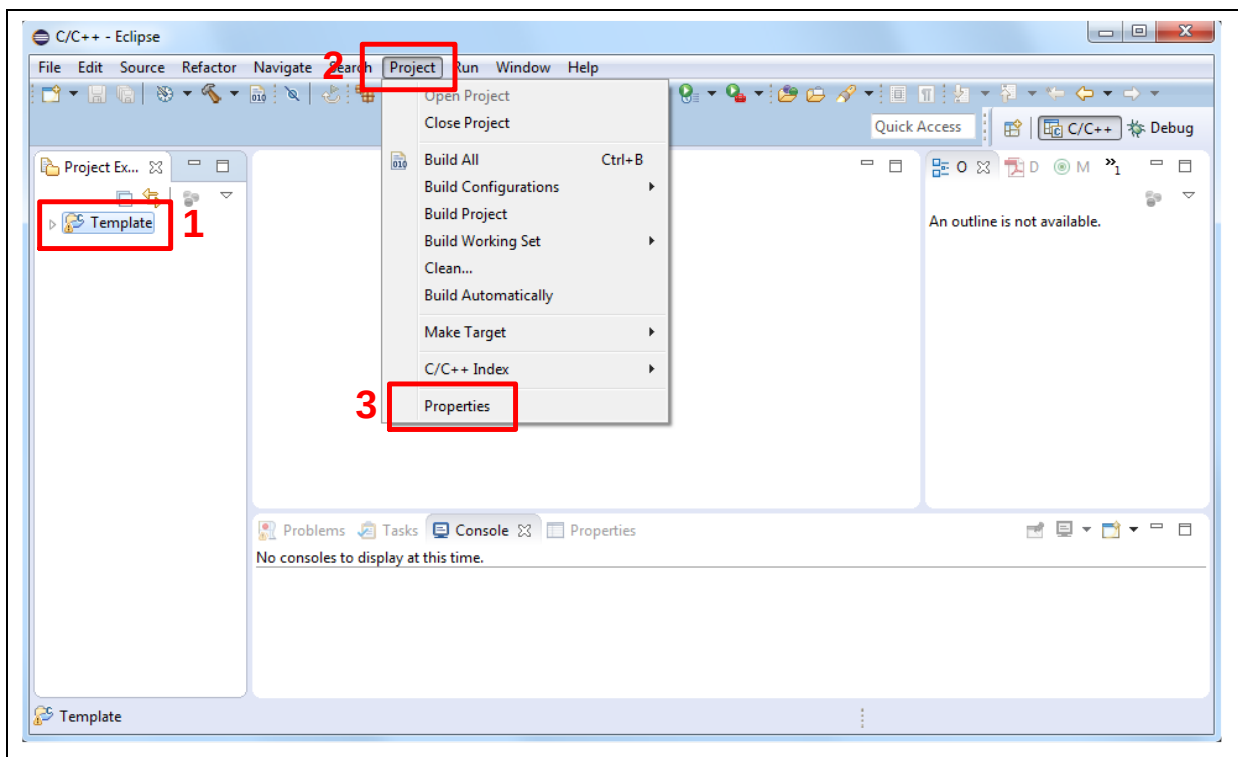
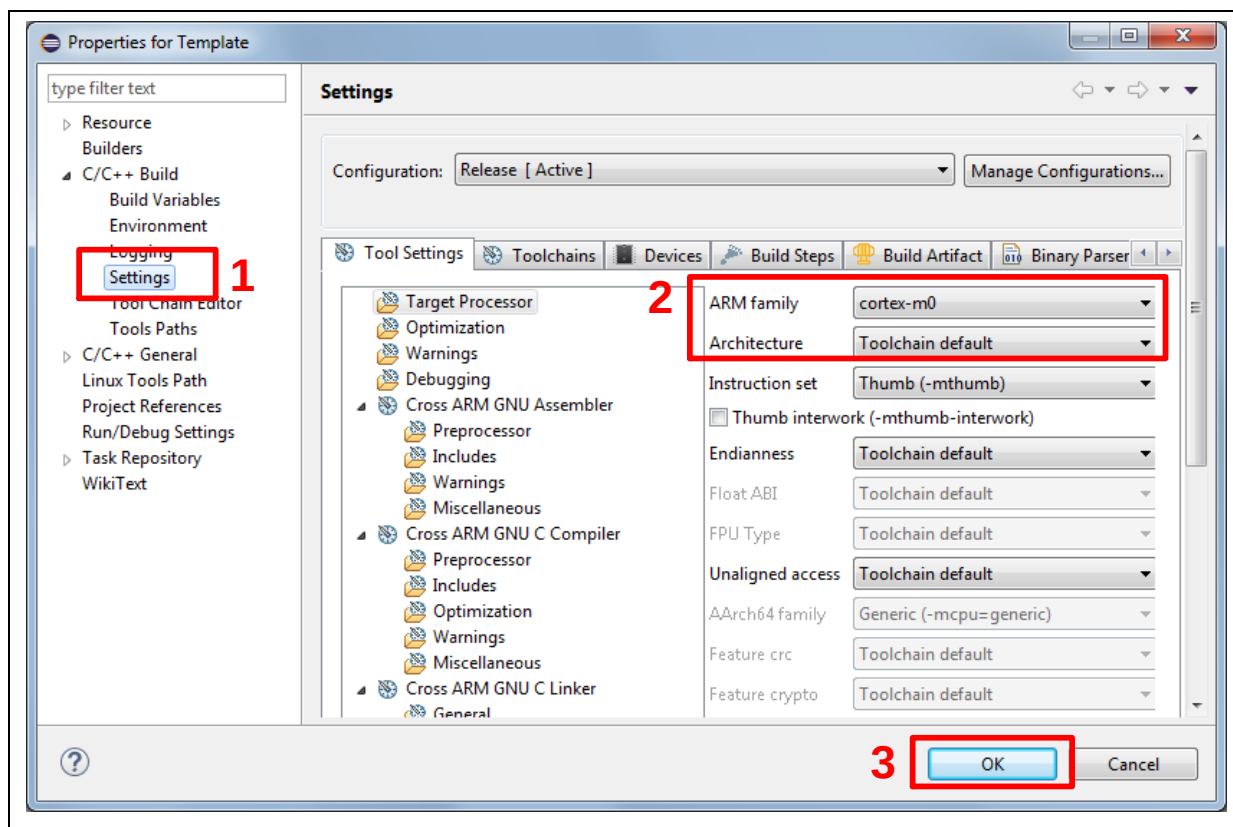

Figure 3-21 Open Project Properties Window
Figure 3-22 Project Properties Settings
- Click the "Template" project and find the project properties as shown in Figure 3-21. Make sure the settings are the same as settings in Figure 3-22.